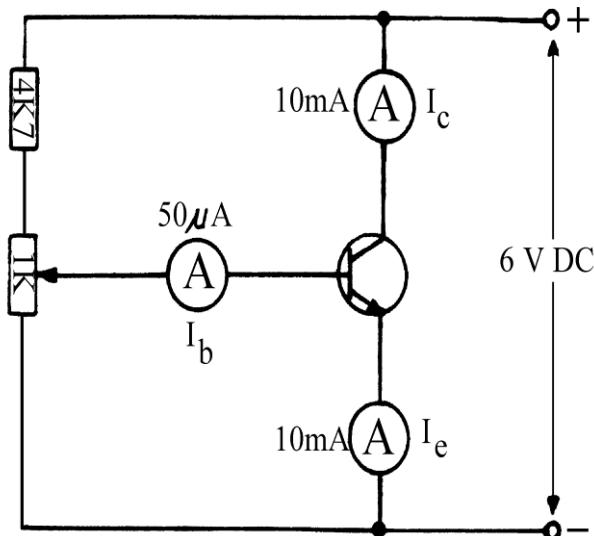

Figure 7
- Three identical ammeters installed as indicated in the circuit diagram, Fig. 7.
- Construct the circuit as shown in Fig. 7.